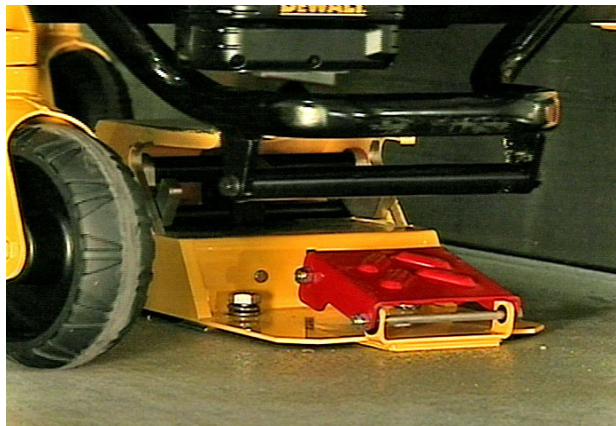

Figure 5 - Pedal fully depressed
1. Before attempting to engage the cot into the fastener, ensure that the pedal is fully depressed and the cot is completely lowered. (see Figure 5).